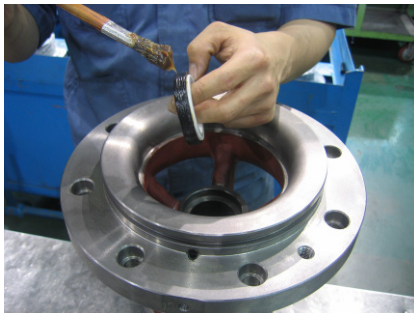

Fig.4 Assembly of seat ring of mechanical seal (메카니칼 셀의 시트링 조립)
4. The seat ring of mechanical seal is greased on outside and inserted as shown in Fig.4.